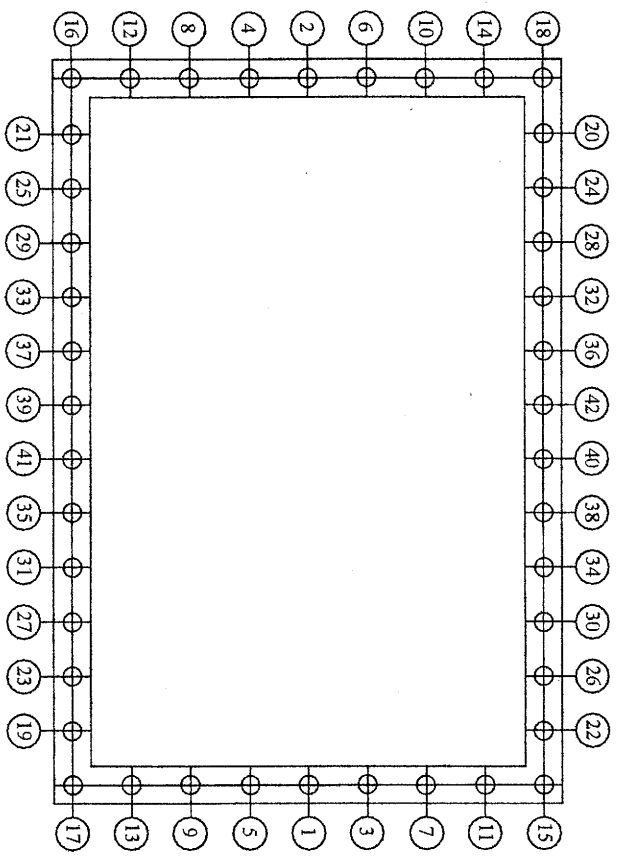

Figure 1
- 1.3 Remove the container bolts on the horizontal joint. Remove the bolts in the sequence shown in **Figure 1**. The canister may contain more or less bolts than shown in **Figure 1**. (There may be only 6 bolts installed and hand-tightened if the rotor canister has been stored empty.) Regardless of number of canister bolts or exact configuration, use the same methodology. Work from side to side on the short ends and then the long ends working across the canister. As bolts are removed check them for wear and damage. Replace any damaged or worn out bolts with new equivalent bolts. Put bolts aside in a safe location.